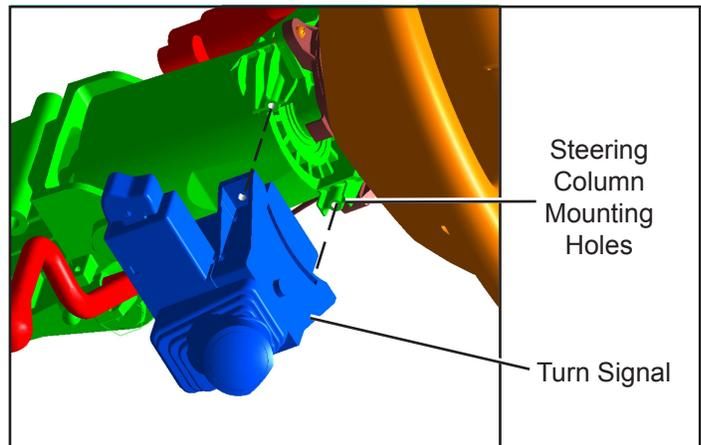
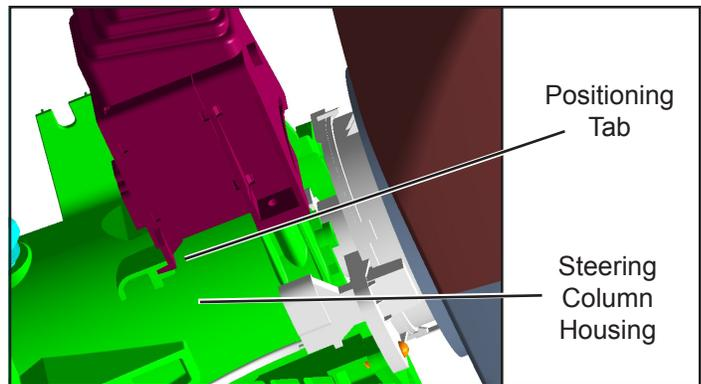

Figure 16 Turn Signal Installation
Figure 17 Positioning Tab
10. Align the mounting holes of the turn signal with the holes in the steering column housing. *Refer to Figure 16.* Ensure the positioning tab is centered in the steering column housing locating slot as shown in Figure 17. Secure the turn signal screws and torque to 15–35 in-lbs.